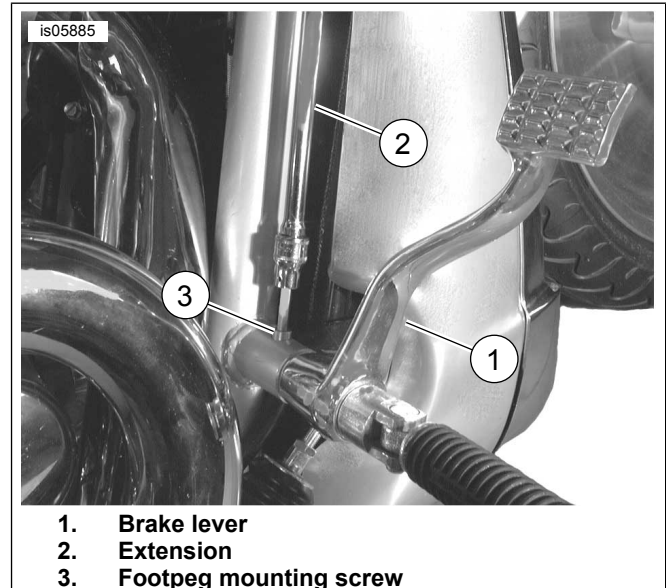

Figure 1. Remove Right Side Footpeg
1. See Figure 1. Remove right side footpeg mounting screw and slide the mount out through the brake lever. Save screw for installation.